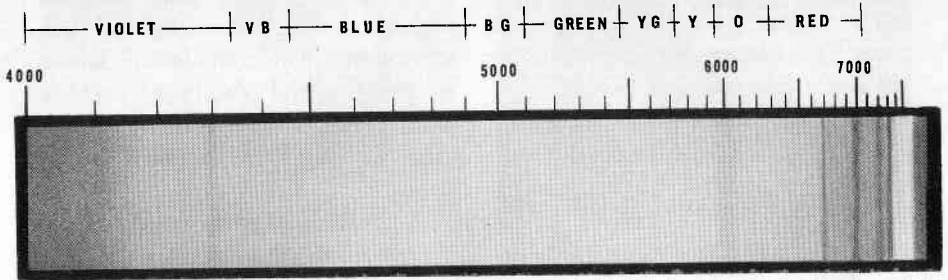

Figure 8
*Physics*, by R. A. Dugdale. The unusual absorption lines appeared at approximately, 7350, 7230, 7000 and 6700 Å. The stone we observed also showed an unexpected moderately strong line at approximately 4300 Å (*Figure 8*).